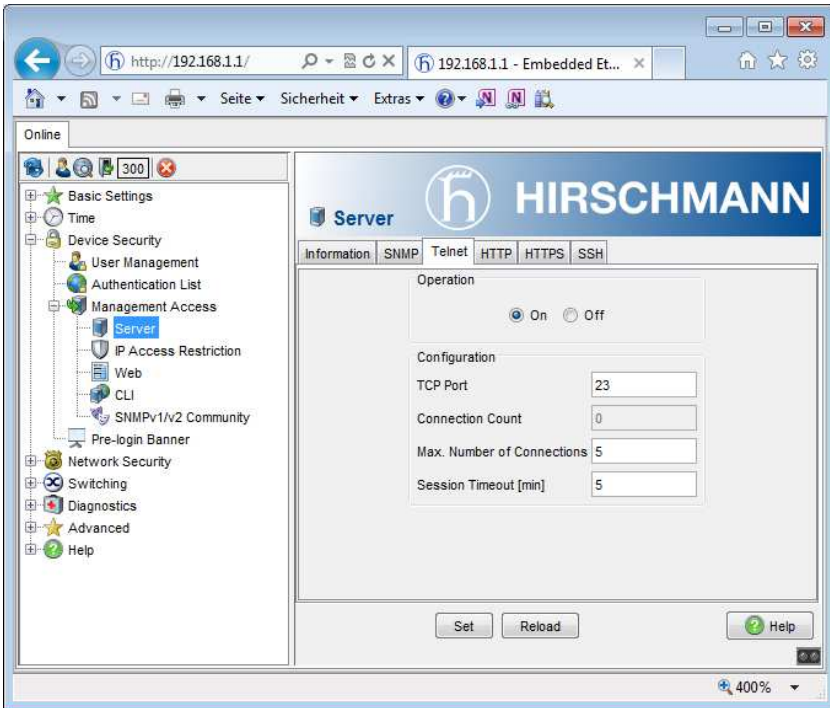

Figure 2-6: Activation of the Telnet Server
- Set operation mode *On* (default); see also Figure 2-6